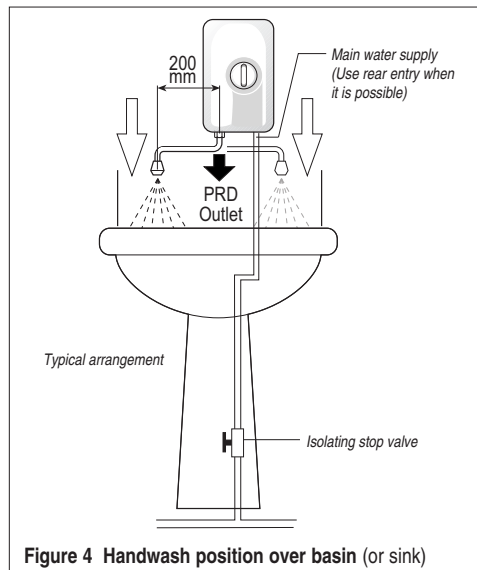

Figure 4 Handwash position over basin (or sink)
5.6 Position the unit above the basin so that the spray will be contained within the basin and at a convenient height for hand washing - see Fig. 4.
6.11 An isolating stopvalve **MUST** be incorporated to the main water supply to comply with Water Regulations - see Fig. 4.